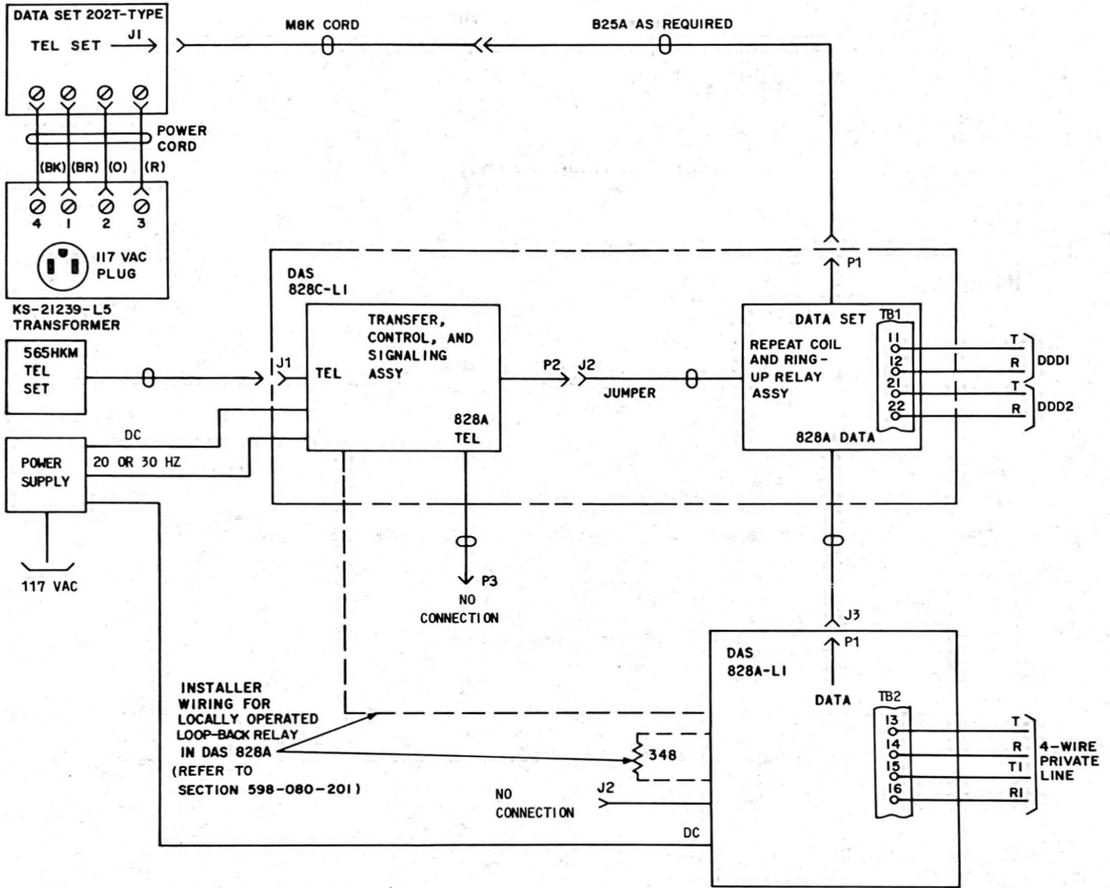

Fig. 9—4-Wire Data Set on 4-Wire Private Line With Switched Network Backup With DAS 828A and 828C, Data Only
- Fig. 9—4-Wire Data Set on 4-Wire Private Line With Switched Network Backup With DAS 828A and 828C, Data Only